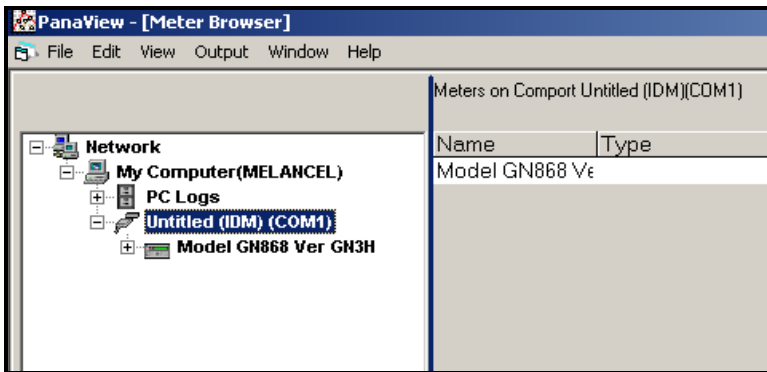

Figure 45: The Serial Port Branch
2. Fully expand the *network tree* and highlight the chosen communication port (see Figure 45).